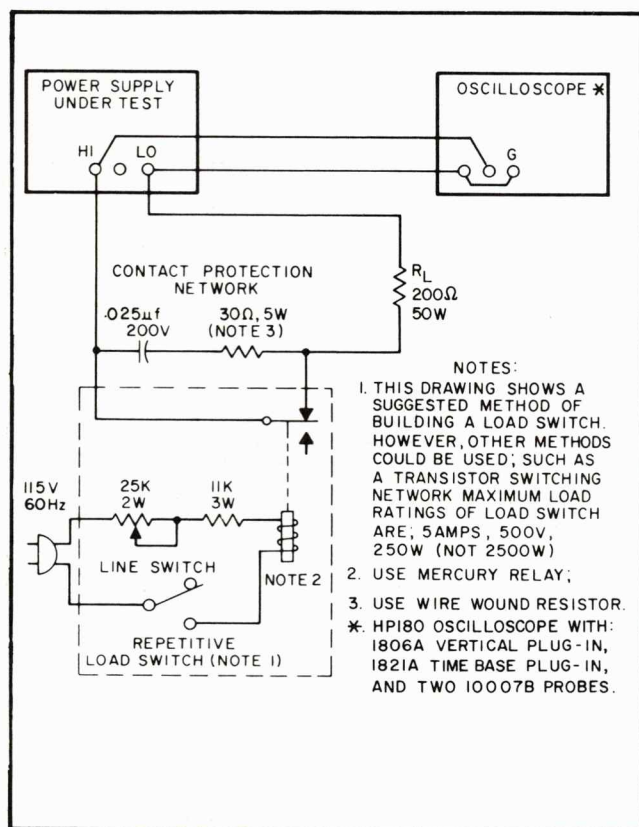

Figure 5-5. Transient Recovery Time, Test Setup
5-34 A mercury-wetted relay, as connected in the load switching circuit of Figure 5-5 should be used for loading and unloading the supply. When this
5-35 The maximum load ratings listed in Figure 5-5 must be observed in order to preserve the mercury-wetted relay contacts. Switching of larger load currents can be accomplished with mercury pool relays; with this technique fast rise times can still be obtained, but the large inertia of mercury pool relays limits the maximum repetition rate of load switching and makes the clear display of the transient recovery characteristic on an oscilloscope more difficult.
- Connect test setup shown in Figure 5-5.